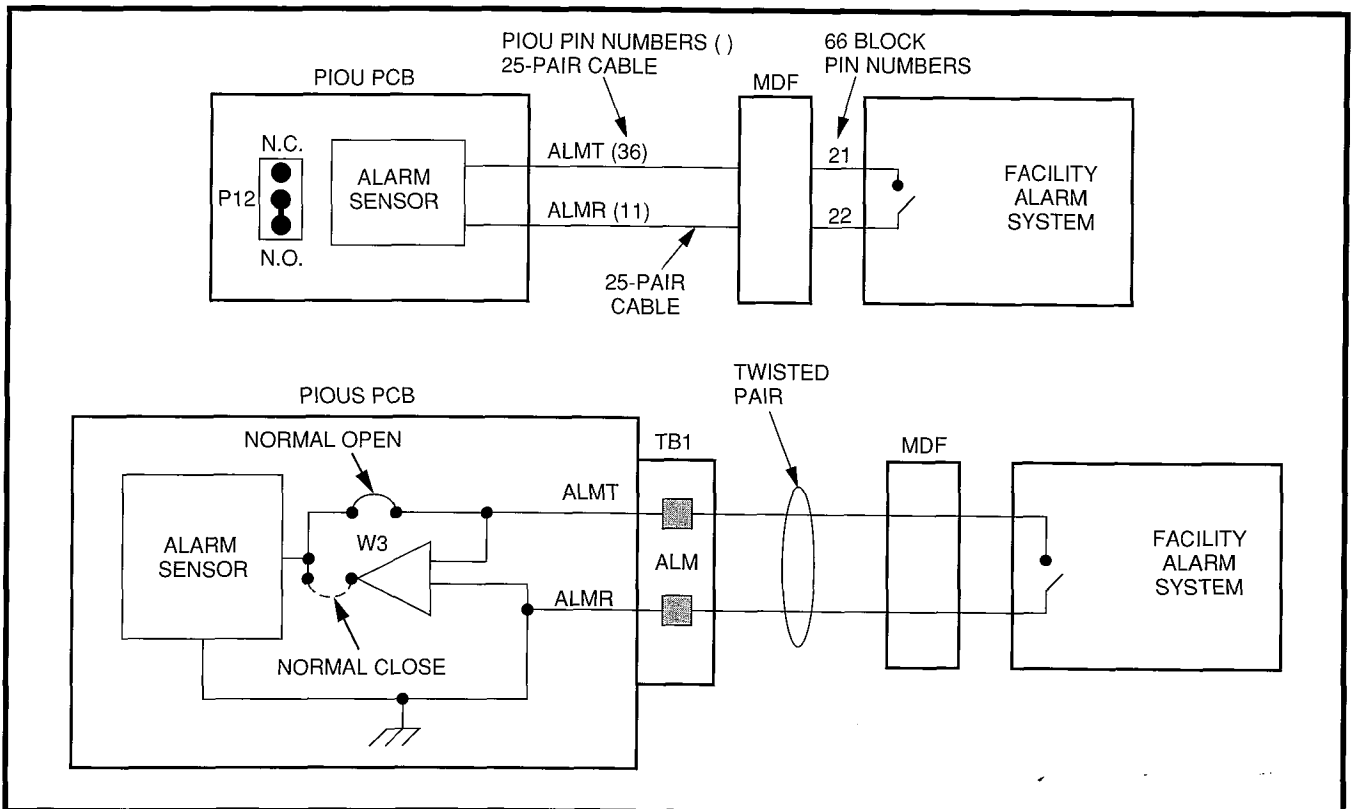

FIGURE 8-23—ALARM SENSOR BLOCK DIAGRAM (PIOU/PIOUS)
10.01 Alarm Sensor Options. Jumper plug **P12** on the PIOU is used to set the alarm sensor to detect an open or closed condition from the facility alarm system. Set **P12** as follows (refer to Figure 8-23):
10.03 Alarm Sensor Wiring. Refer to Figure 8-23, and connect the facility alarm system relay contacts to the PIOU/PIOUS PCB.